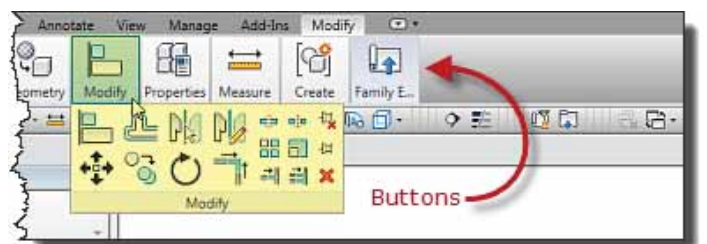

Figure 8 - Minimize to Panel Buttons
- Minimize to Panel Buttons (Figure 8): You gain about half an inch with this setting. Buttons are added below the tabs which consist of a Panel name and a tool icon. After you click on a tab, tools automatically pop out when you hover over any of the buttons.